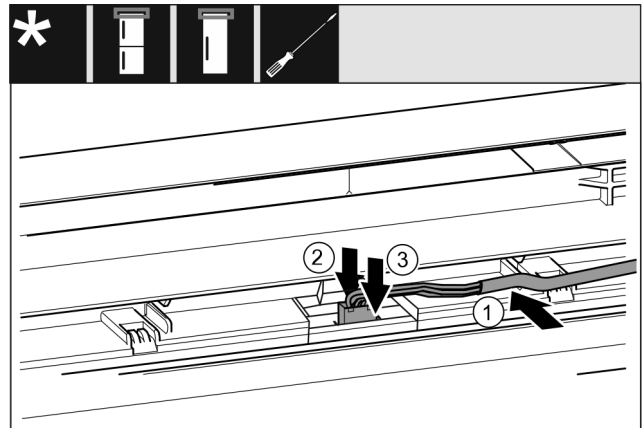

Fig. 45 Fridge/freezer combinations/freezers/cooling units
- ▶ Carefully insert the cable Fig. 45 (1) into the guide in the top door.
- ▶ Press the latching tab Fig. 45 (2) towards the back.
- ▶ Snap in the plug Fig. 45 (3).